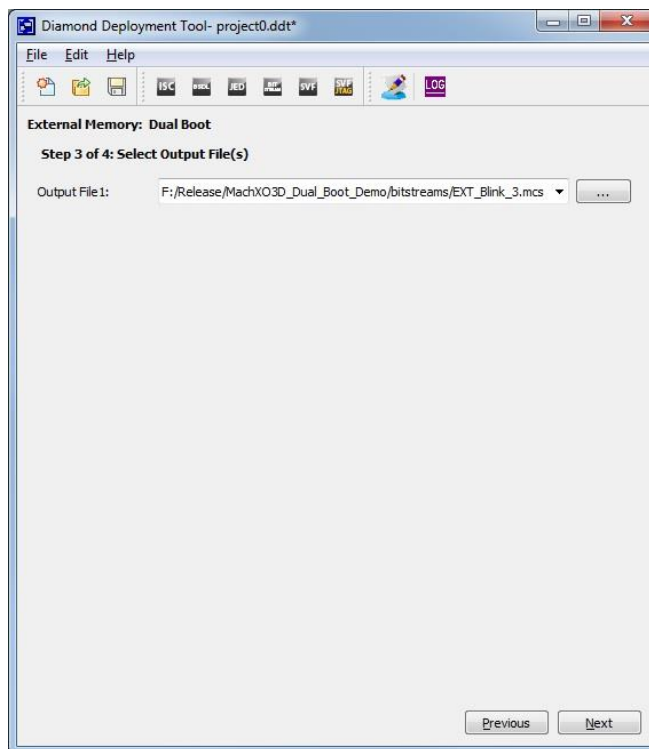

Figure 4.9. Define Output File
9. Enter the desired output file name (*.mcs), for example, Dual_EXT_3_4.mcs, into the demo package **bitstreams** folder, as shown in Figure 4.9.